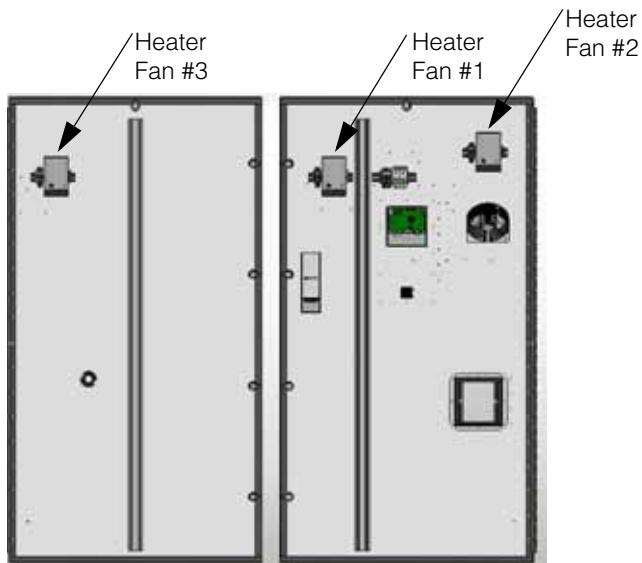

Figure 1-5 Heater Fan Locations
- Figure 1-5 Heater Fan Locations----- 1-8